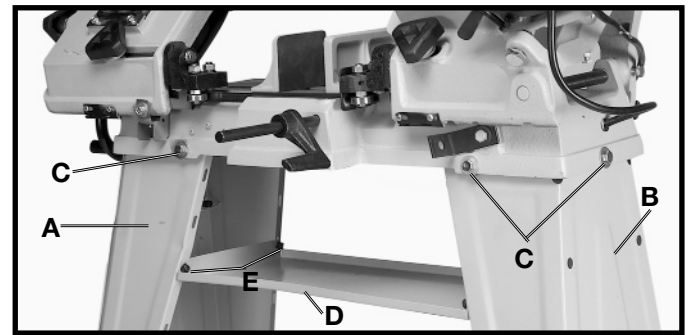

Fig. 2
1. Assemble the two legs (A) and (B) Fig. 2, to the band saw base using the six 5/16-18x1" hex head cap screws, three of which are shown at (C) Fig. 2, twelve 5/16" flat washers and six 5/16-18" hex nuts. Align the holes in the band saw with the holes in the legs. Place a 5/16" flat washer onto a 5/16-18x1" hex head cap screw, insert screw through the hole in the band saw and the hole in the leg, place a 5/16" flat washer onto the screw, thread a 5/16" hex nut onto the screw, and tighten securely. Repeat this process for the five remaining holes.
2. Assemble the shelf (D) Fig. 2, to the two legs (A) and (B). Align the four holes in the shelf (D) with the four holes in the two legs (A) and (B). Insert a M6x10mm hex head screw, two of which are shown at (E) through the hole in the shelf and leg. Place a 6mm lockwasher onto the screw, thread a M6 hex nut onto the screw, and tighten securely. Repeat this process for the three remaining holes.